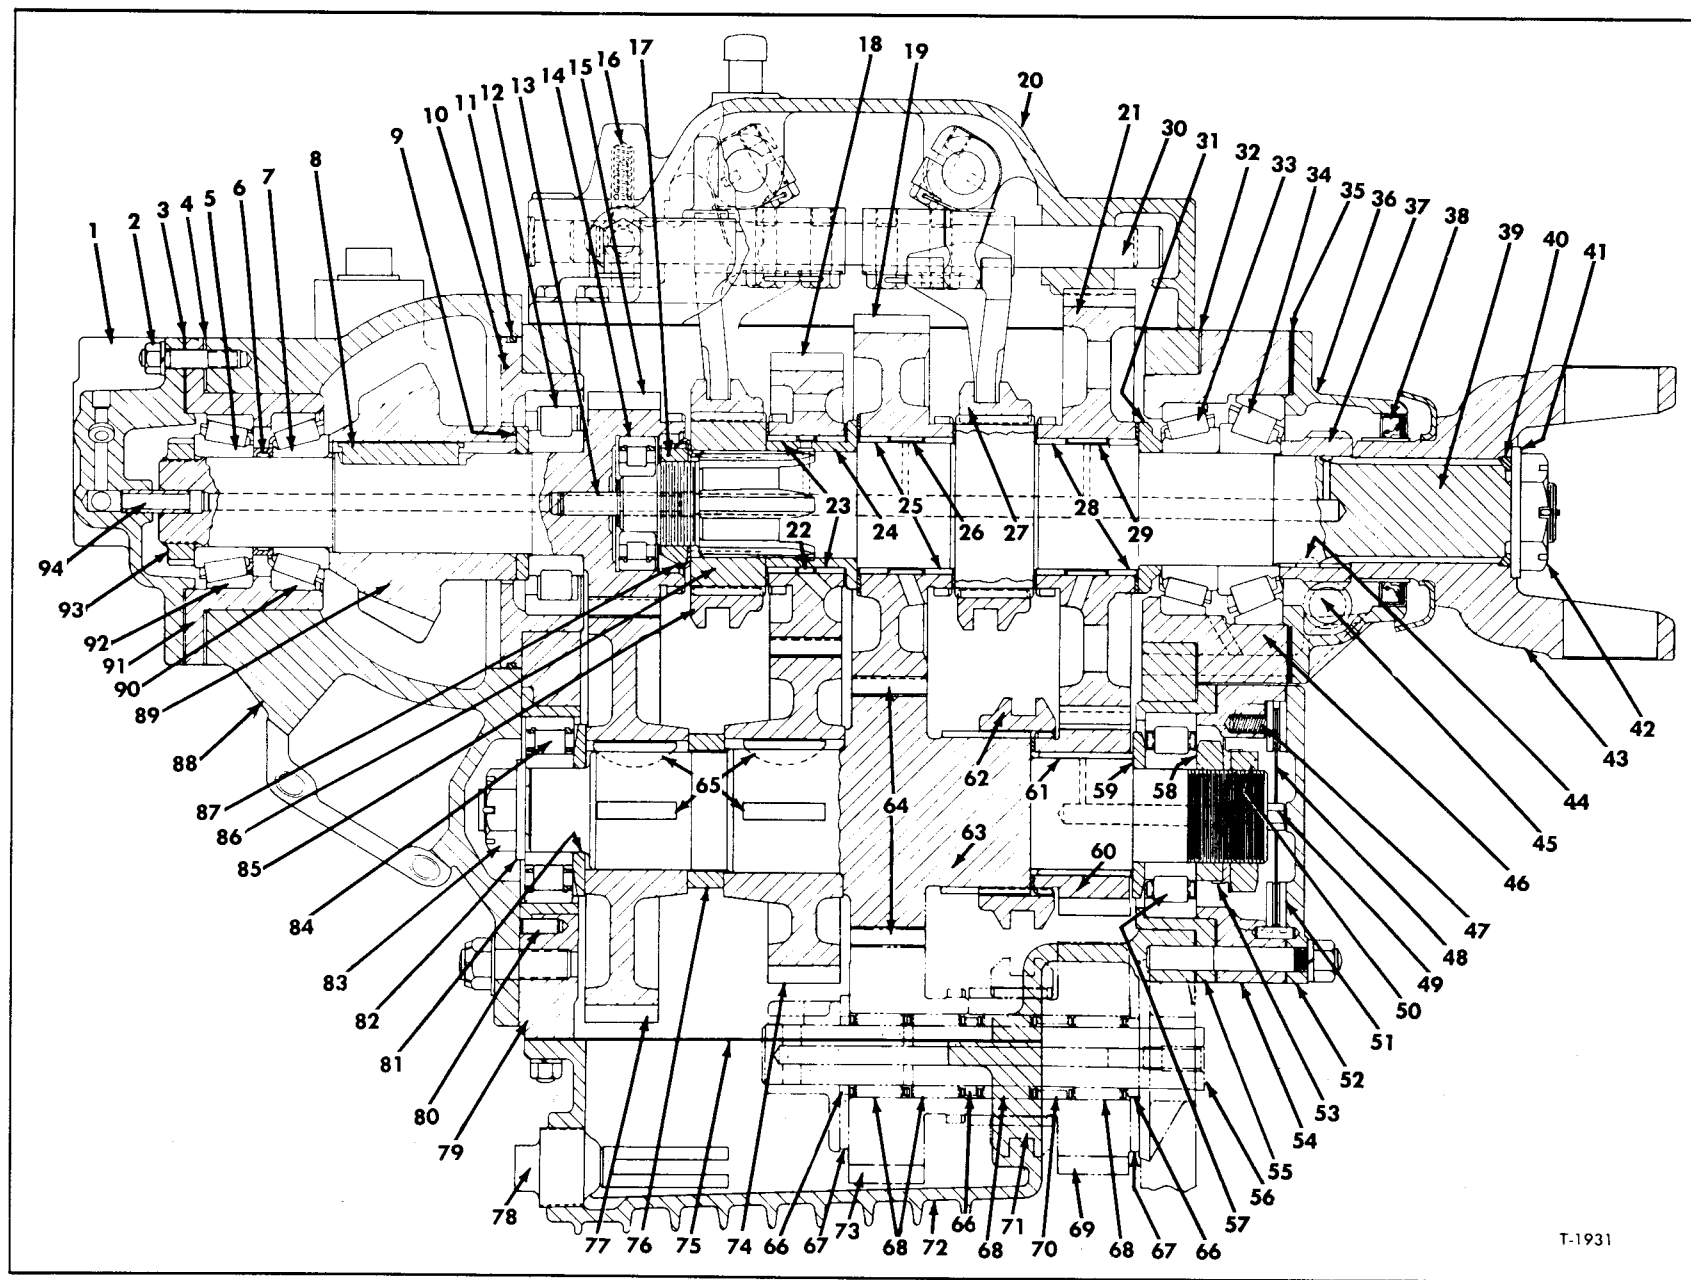

Figure 17—Sectional View of Transmission
2. Remove stud nuts and washers attaching bearing cap (31). Remove bearing cap assembly and gasket (20).
3. Referring to figure 17 shift the sliding clutches to lock mainshaft so it cannot be turned, then remove bearing retaining nut (25) from drive gear (27).
4. Using puller screws in tapped holes in flange on bearing retainer (22) pull retainer and bearing assembly (29) out of clutch housing (33). Remove and tag shims (19) so same shims can be installed at assembly.
6. Remove bearing spacer (28) and any shims which may be present. Tie spacer and shims (if used) together for use at assembly. Remove inner bearing assembly (24).
7. Remove bevel drive gear (89, fig. 17) from drive gear (15, fig. 17), pry key (8, fig. 17) out of slot in shaft, and remove spacer (9, fig. 17).
Key numbers in text refer to figure 17.
Captions For Figure 17
(Key numbers in text refer to figure 17)
Key numbers in text refer to figure 17 except as otherwise indicated.
MAINSHAFT AND DRIVE GEAR ASSEMBLY (Fig. 17)